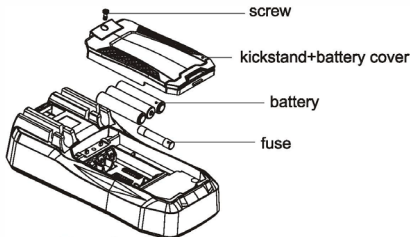

Figure 8
2. Battery /Fuse Replacement (Figure 8)